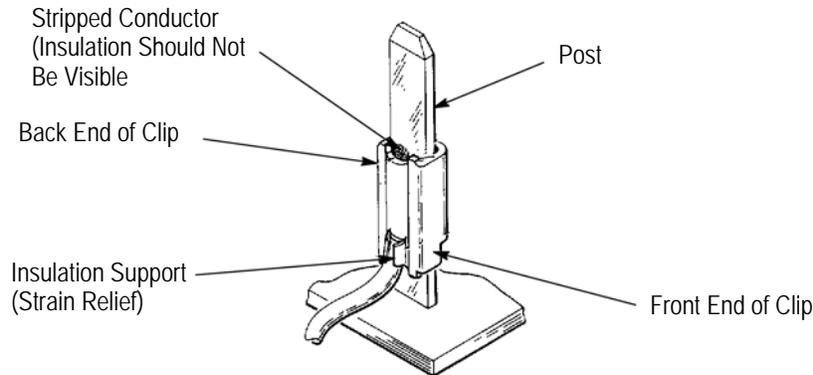

Figure 10
5. Remove the tool from the post. A properly terminated post should appear as shown in Figure 10. Be certain that stripped conductor, not insulation, is visible at the back end of the clip.